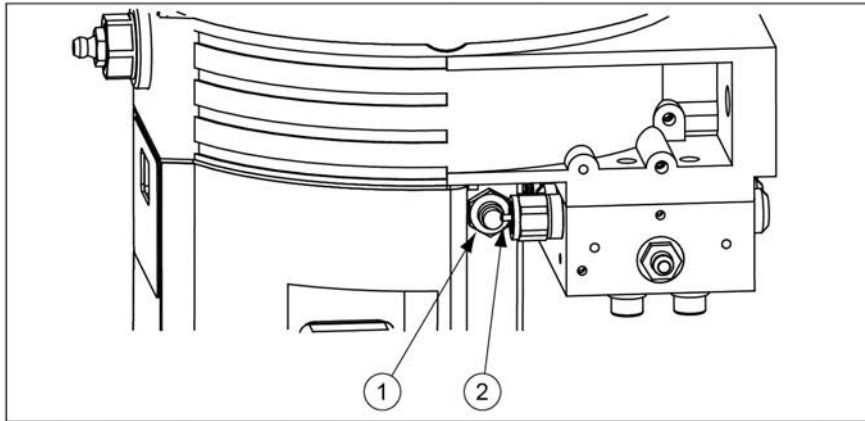

FIGURE 9. PROXIMITY SWITCH (1) AND CONTROL PIN (2)
1. Press the operator button (2) to acknowledge the fault. The message (flashing) changes to continuous lit.
3. Press the operator button (2) (for 2 seconds) to trigger lubrication cycles until the indicator pin (control pin) moves across the proximity switch. See Figure 9.